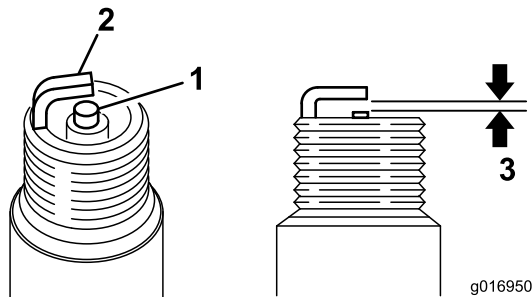

Figure 35
3. Set the air gap at 0.024-0.028 inch (.6-.7 mm) (Figure 35). Install the correctly gapped spark plug and tighten it firmly to 17 ft.-lb (23 N-m).